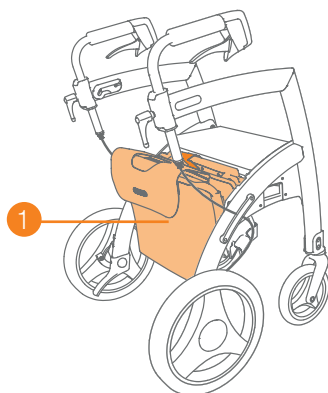

Figure 31: Transport chair package attached.
- c. Place the Rollz transport chair package in the two notches behind the seat (**Figure 31**).
- a. Attach the transport chair package to the Rollz Motion before you go out (**Figure 31**).